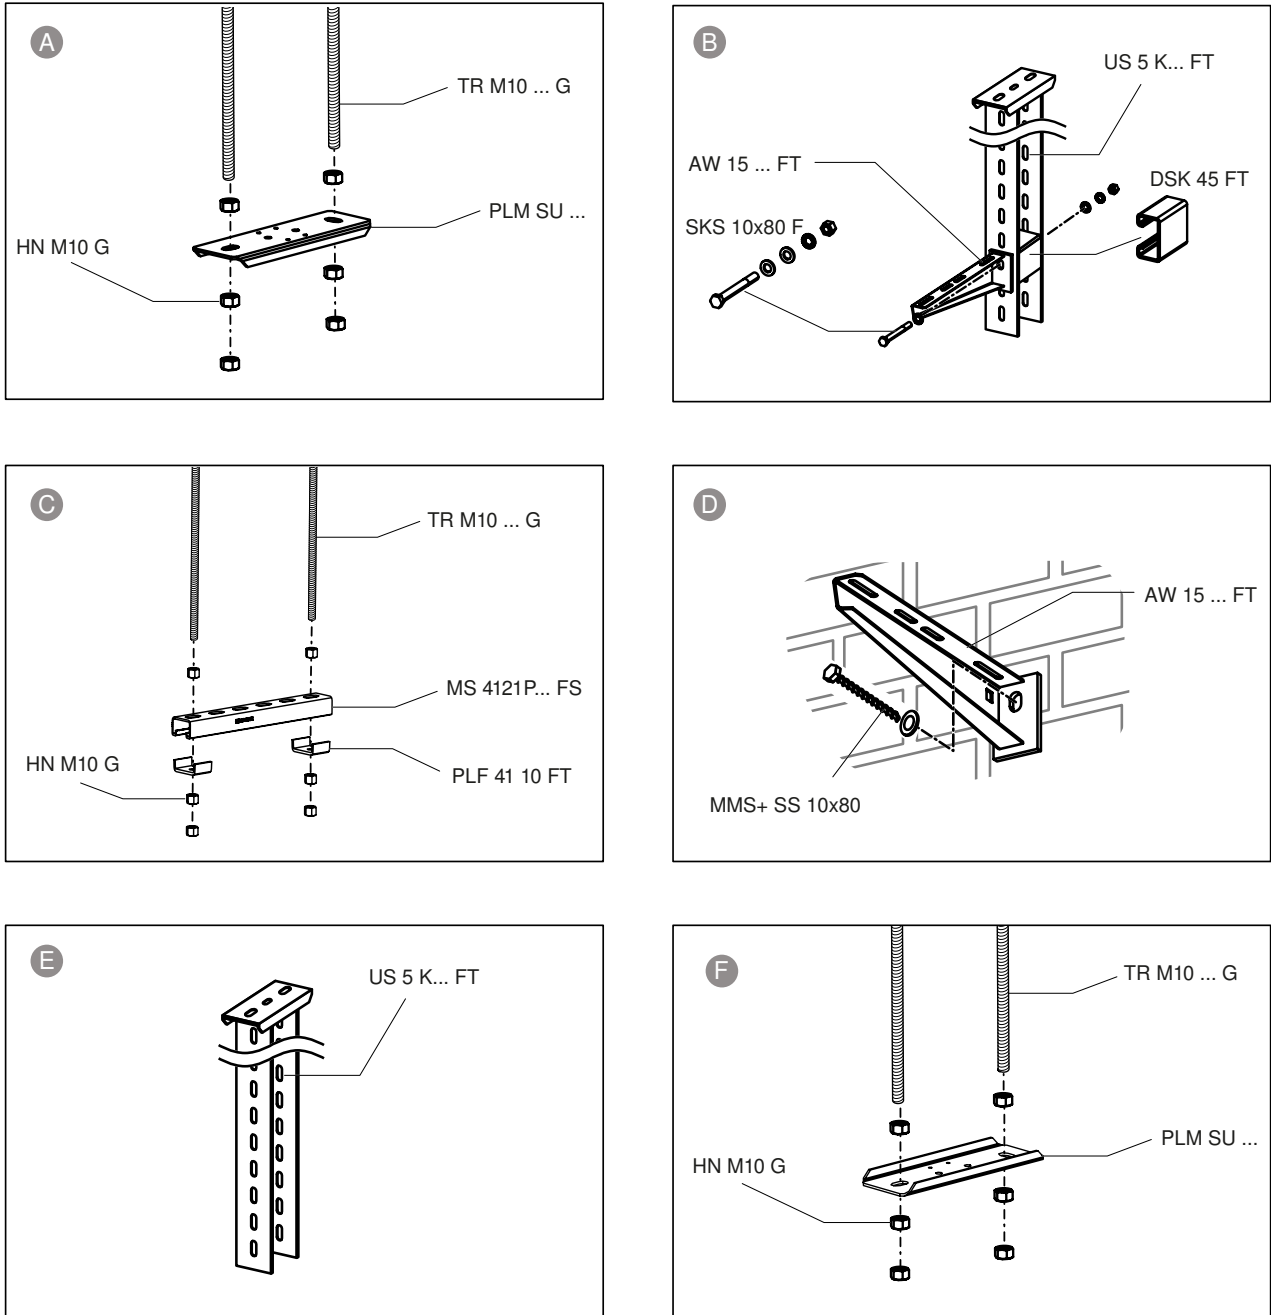

Fig. 9: Mounting support systems
3. Mount the support system in accordance with Fig. 9.